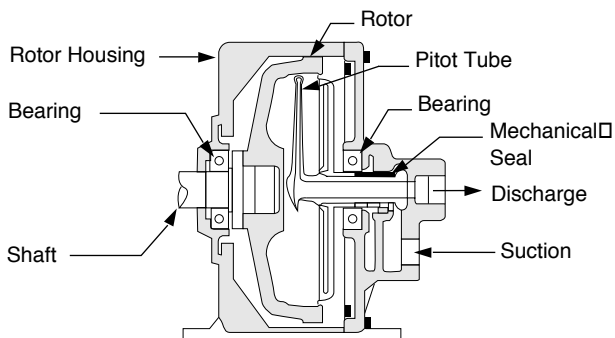

FIGURE 10. Rotating Case Pump
- The basic concept of this pump is unique (Figure 10). Liquid enters the intake manifold and passes into a rotating case where centrifugal force accelerates it. A stationary pickup tube situated on the inner edge of the case, where pressure and velocity are the greatest, converts the centrifugal energy into a steady pulsation-free high pressure stream.